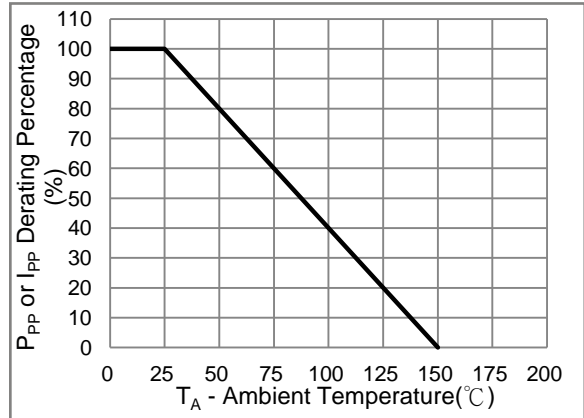
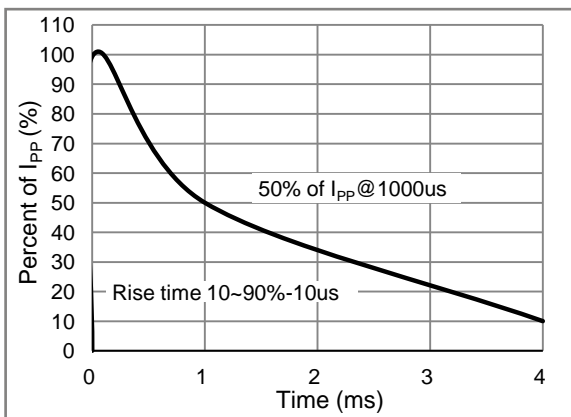

Fig.2 Derating Curve
Fig.3 10/1000μs Pulse Waverform
| Peak Pulse Current on tp=10/1000µs waveform (Notes 1) Fig.3 | I _{PPM} | see Table 1 | Amps |
1. Non-repetitive current pulse, per Fig.3 and derated above T_A = 25°C per Fig. 2.